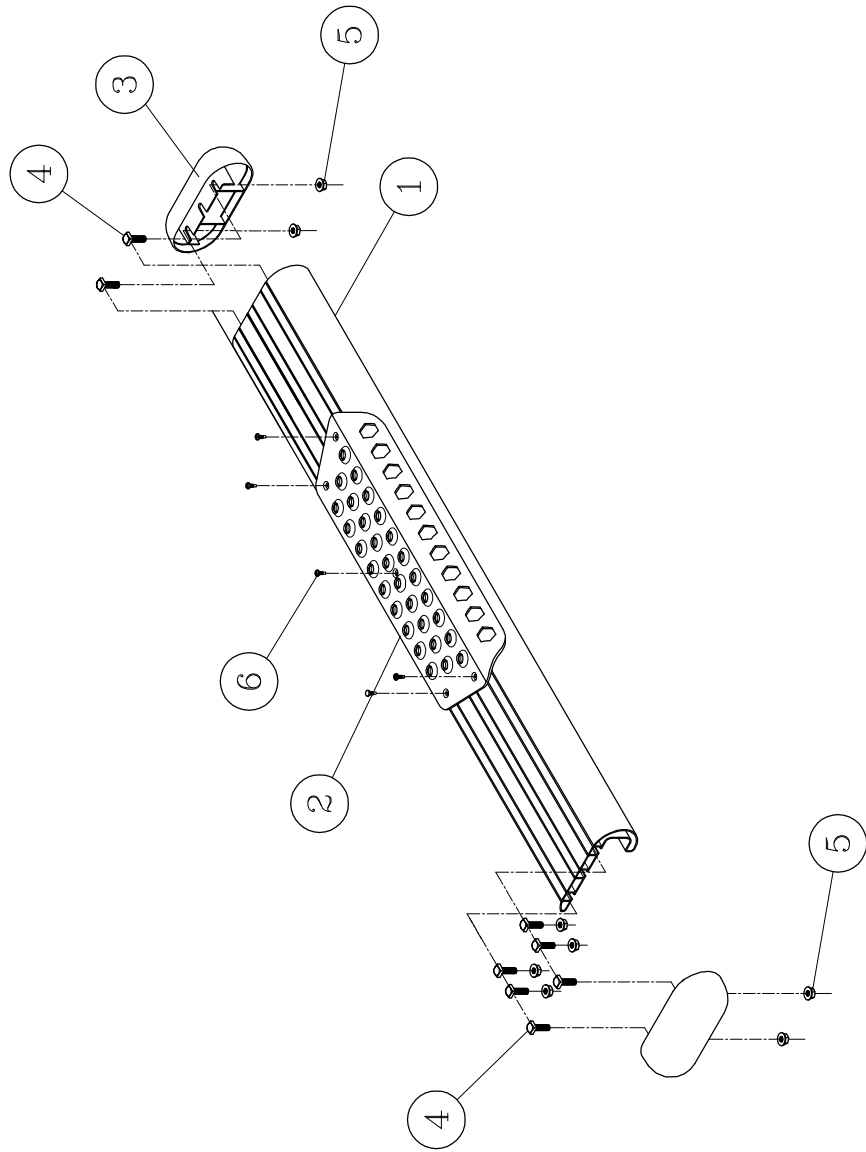

fig.1
3. BEFORE ATTACHING THE O-MEGA STEPS TO THE BRACKETS, PLACE THE STEP PADS (ITEM #2) ON TOP OF THE STEP PLATES ACCORDINGLY FOR YOUR VEHICLE. USING THE HOLES IN THE STEP PAD AS A GUIDE DRILL (5) 1/8" PILOT HOLES. ATTACH WITH (5) 8-18X1/2" TEK SCREWS (ITEM #6) PROVIDED. REPEAT FOR ALL STEP PADS.
5. INSTALL THE END CAPS (ITEM #3) AS SHOWN IN (FIG.1), TIGHTENING THE SERRATED NUTS (ITEM#5) TO 5 LB FT.
1. DRILL (2) 3/8" DIAMETER HOLE THROUGH THE MIDDLE OF THE PINCH WELD FOR THE BOTTOM MOUNTING HOLE. SEE **FIG.1** TO MARK THESE LOCATIONS WHICH ARE MEASURED FROM THE FRONT WHEEL WELL OPENING.
3. WITH THE (2) BRACKETS IN PLACE AND THAT THE UPPER SURFACE IS IN CONTACT WITH THE VEHICLE, USE THE TOP (2) HOLES IN THE BRACKET AS A GUIDE AND DRILL (2) 5/32" HOLES THROUGH THE INNER ROCKER PANEL FOR EACH BRACKET. INSTALL THE 1/4" X 3/4" SELF TAPPING SCREWS (ITEM #5) **USE CARE NOT TO OVER TIGHTEN.**